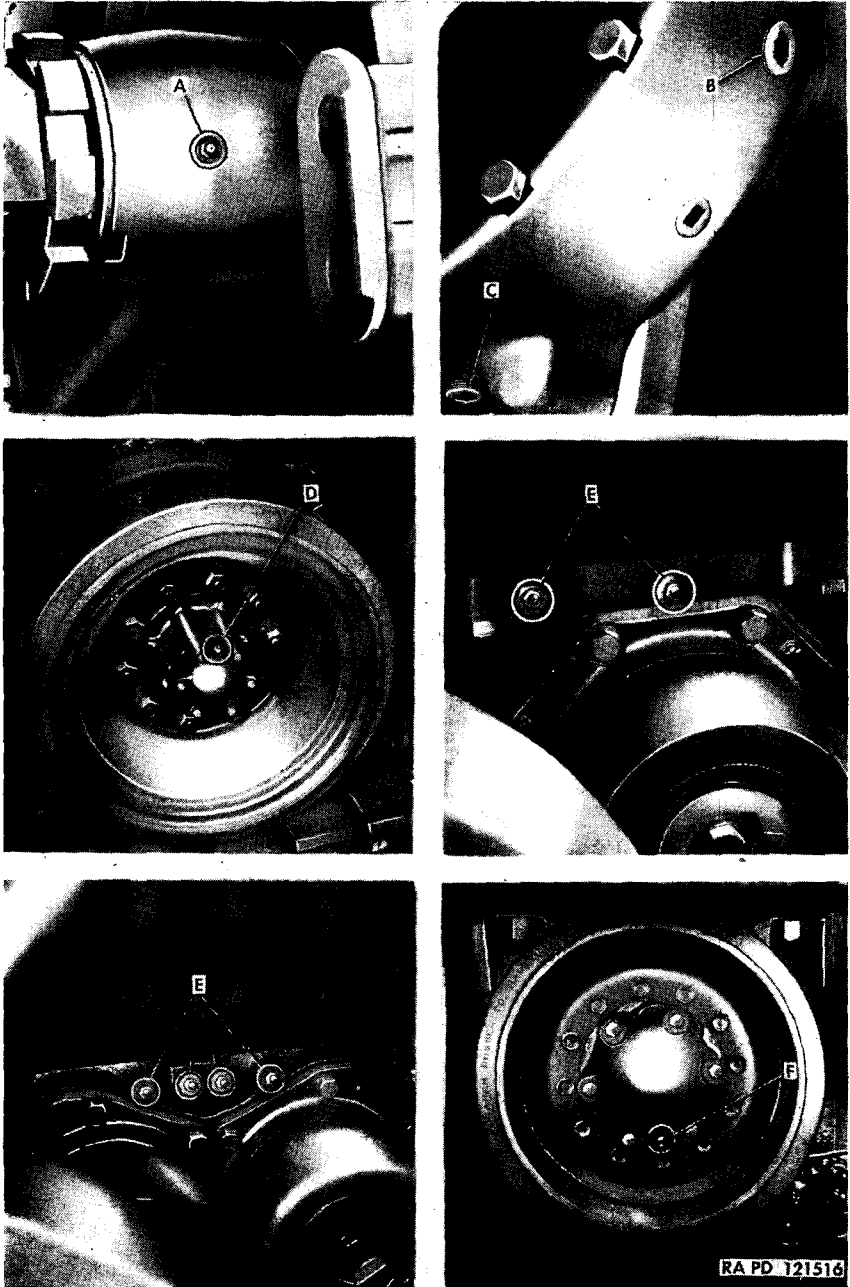

Figure 88. Localized lubrication points (points A through F).
- (1) Lubricating fittings, grease cups, oilers, and oilholes are shown in figures 88 through 93 and are referenced to the lubrication order. Wipe these devices and the surrounding surfaces clean before and after lubricant is applied.
- (2) A $\frac{3}{4}$ -inch red circle should be painted around each lubricating fitting and oilhole. Lubrication fittings on sighting and fire control instruments should not be used.
A, fig 88